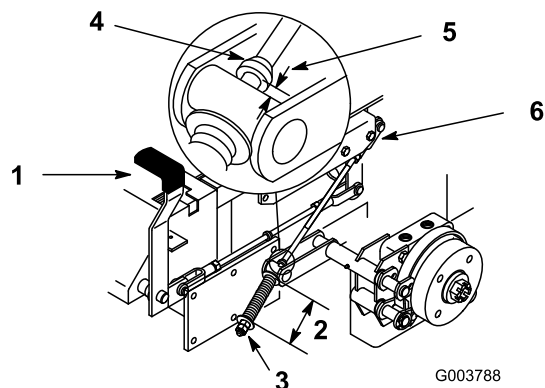

Figure 53
The measurement should be 2-3/4 inch (70 mm) between washers (Figure 53).
3. If adjustment is necessary, loosen the jam nut below the spring and tighten the nut directly below the yoke (Figure 53). Turn the nut until the correct measurement is obtained. Tighten the two nuts together and repeat on opposite side of unit.
The measurement should be 3/16-1/4 inch (5-7 mm) (Figure 53).
7. If adjustment is necessary, loosen the jam nut directly below the yoke. Turn the bottom rod until the correct measurement is obtained (Figure 53). Tighten jam nut at yoke